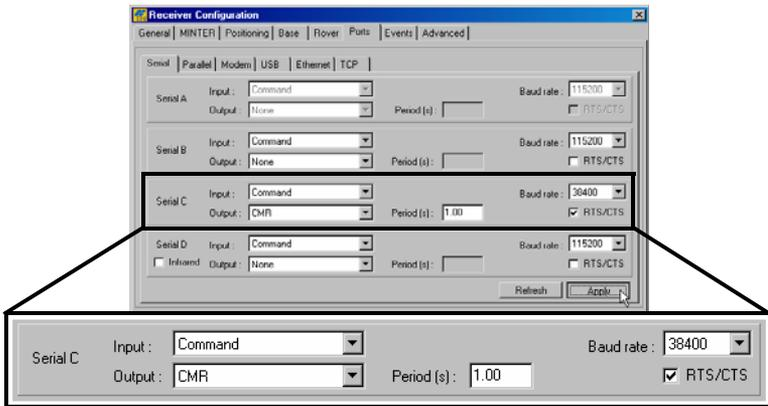

Figure 3-6. Base Configuration for RTK Surveys – Ports
- For RTK surveys, click the **Ports** tab, set the following port parameters for the serial port (Table 3-2), and then click **Apply** (Figure 3-6 on page 3-7).